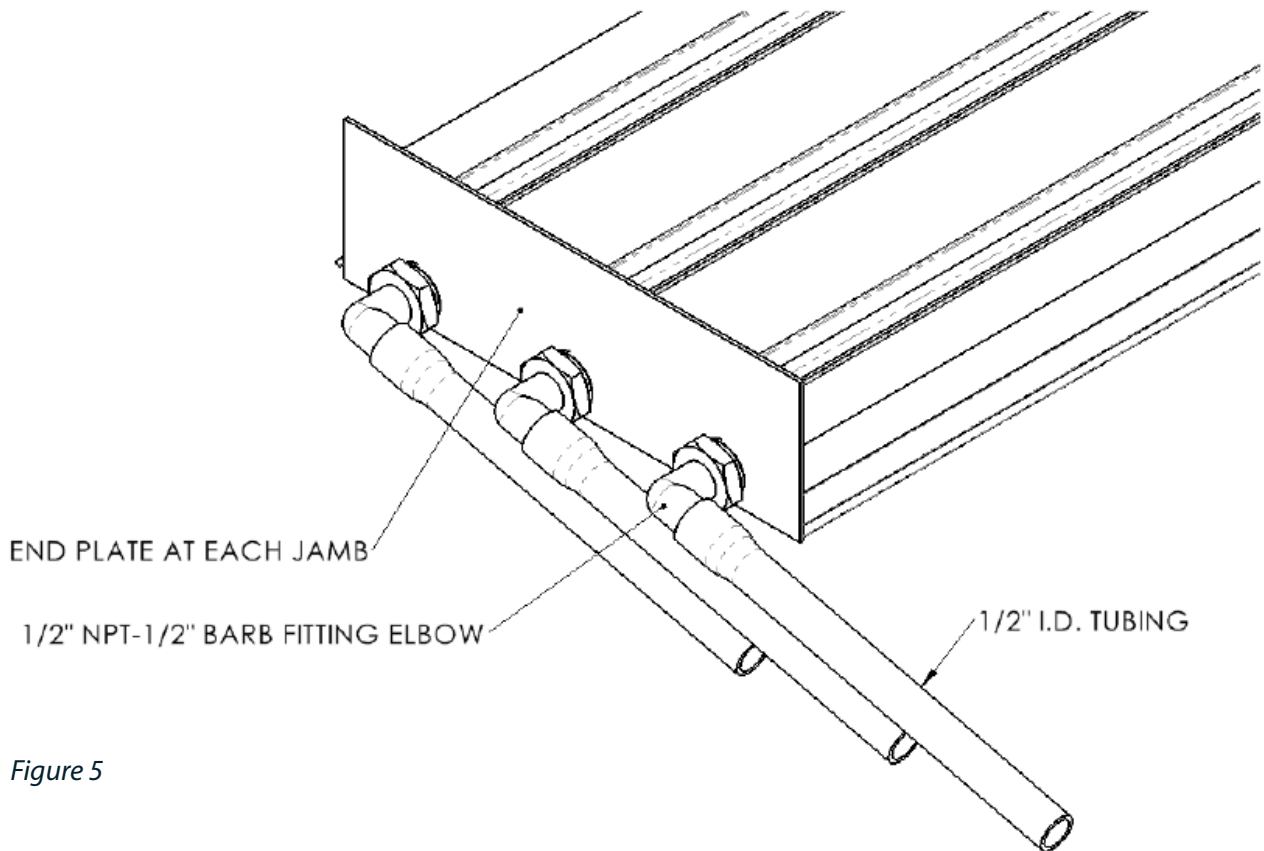

Figure 5
- Side Drain Fitting Sill (See **Figure 5**)
Screw the ½" NPT pipe to ½" hose barb fittings using tread sealant or Teflon tape to the ends of each track. Push fully the ½" minimum inside diameter hoses onto the barbed fittings and route to an appropriate drainage location, ensuring that the hoses have a continuous downward slope of at least ¼" per foot. See **Figure 5**. Skip to step 10.